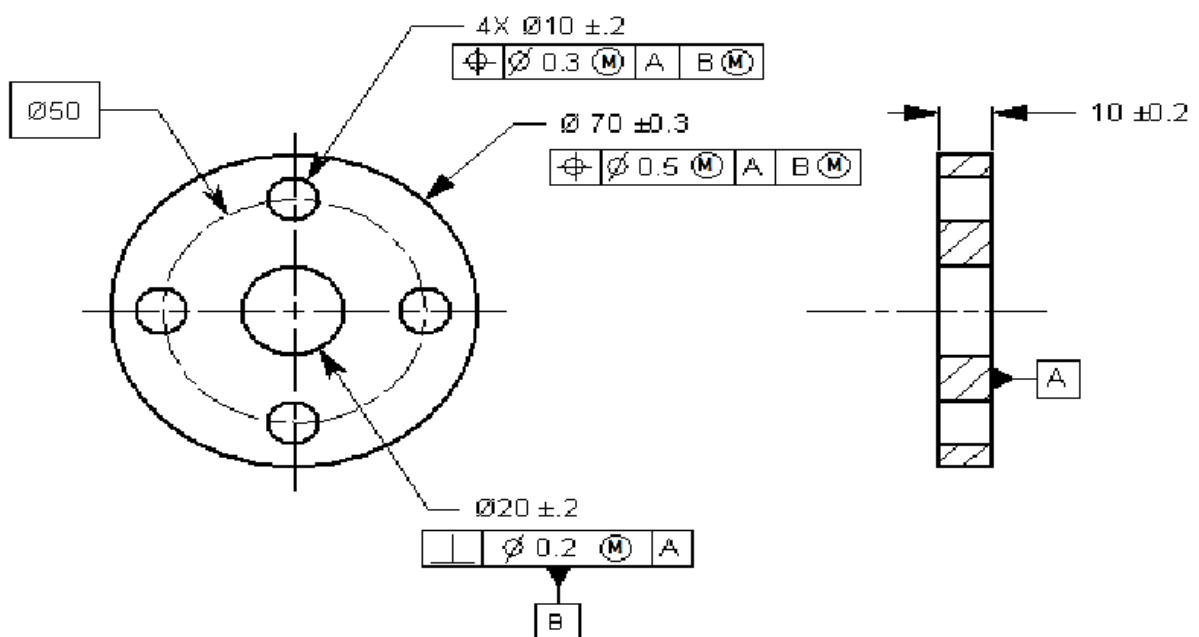

Fig. 10.2
2. Draw the part in 3D and mark Annotations and Tolerance (made from generated 2D) refer Fig. 10.2